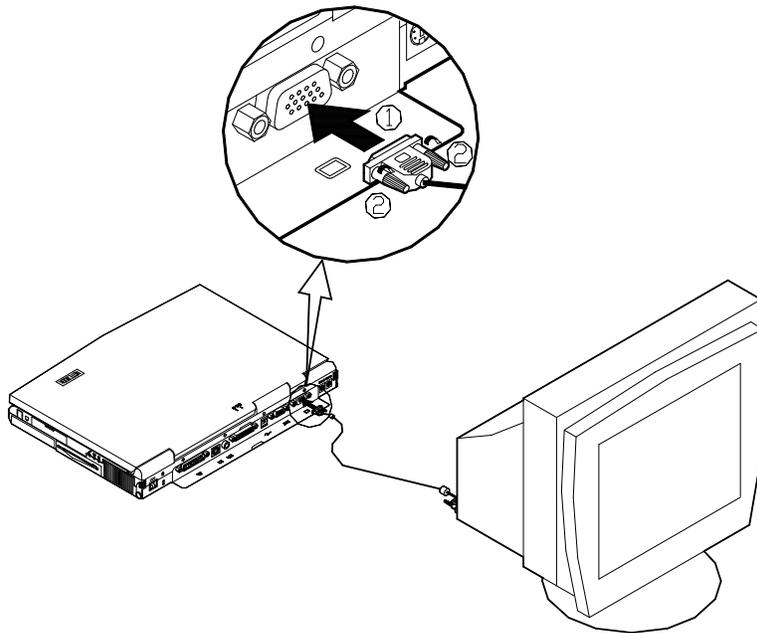

Figure 4-7
3. Tighten the screws that fasten the cable to the CRT port (Figure 4-7).